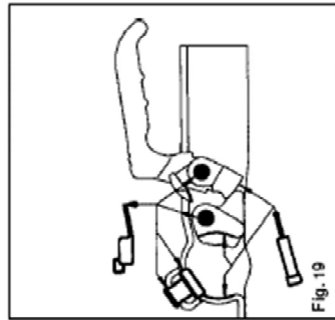

Fig. 19
**Servicing & Cleaning: Lubrication Points (Fig. 19)**